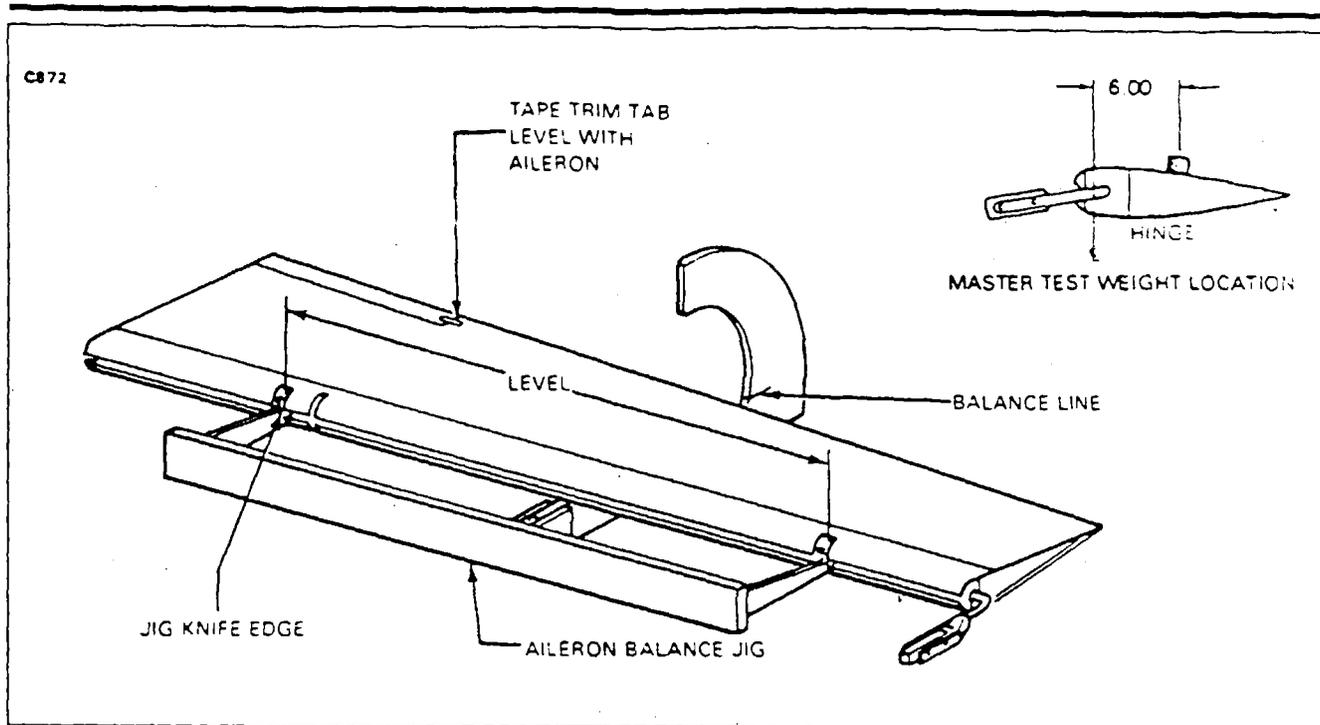

Figure 57-6. Aileron Balancing
**AILERON BALANCING PROCEDURE.** (Refer to Figure 57-6 and Chart 5701.)
2. Place the aileron on a balancing jib as illustrated in Figure 57-6. Establish a horizontal reference mark which aligns with the trailing edge of the aileron when it is held in a horizontal level position (chord line level).